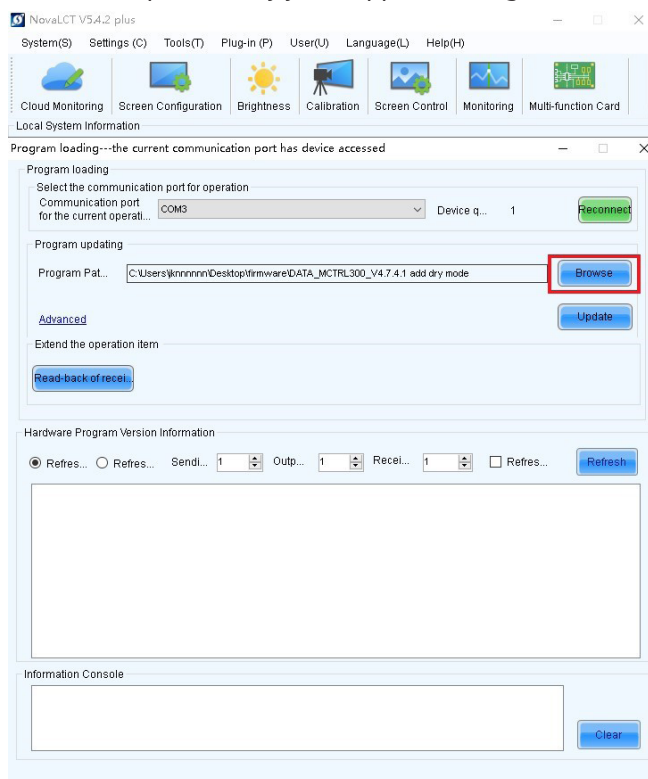

Figure 1-5
5. Inform your supplier the model of the LED display controller you are using, a corresponding firmware will then be provided to you. Click Browse to search the firmware file provided by your supplier. See Figure 1-5.